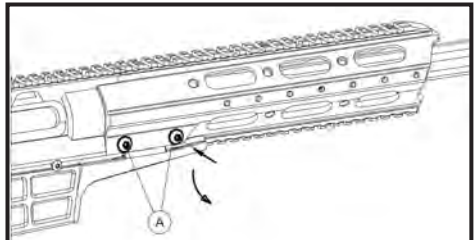

Fig. 36 - Loosening the fore-end
1. Loosen the front screw approx. 1,5-2 turns with T25 Torx key (Fig. 36).